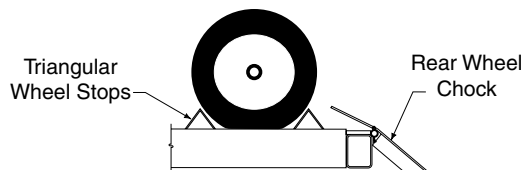

Fig. 1
- Drive vehicle onto lift and stop when vehicle's front wheels are centered on turning radius gauges. On lifts not used for wheel alignment, stop vehicle when it is centered on runways. At all times, be sure rear wheels are forward of the ramp/chocks and the ramp/chocks will clear tires when the lift is raised, Fig. 1. Driver and passengers must exit before raising.
- Place triangular wheel chocks on each side of one of the rear tires, Fig. 1.
- Fully lower lift, remove the triangular wheel chocks and check to be sure area is clear before removing vehicle from lift, Fig. 1.